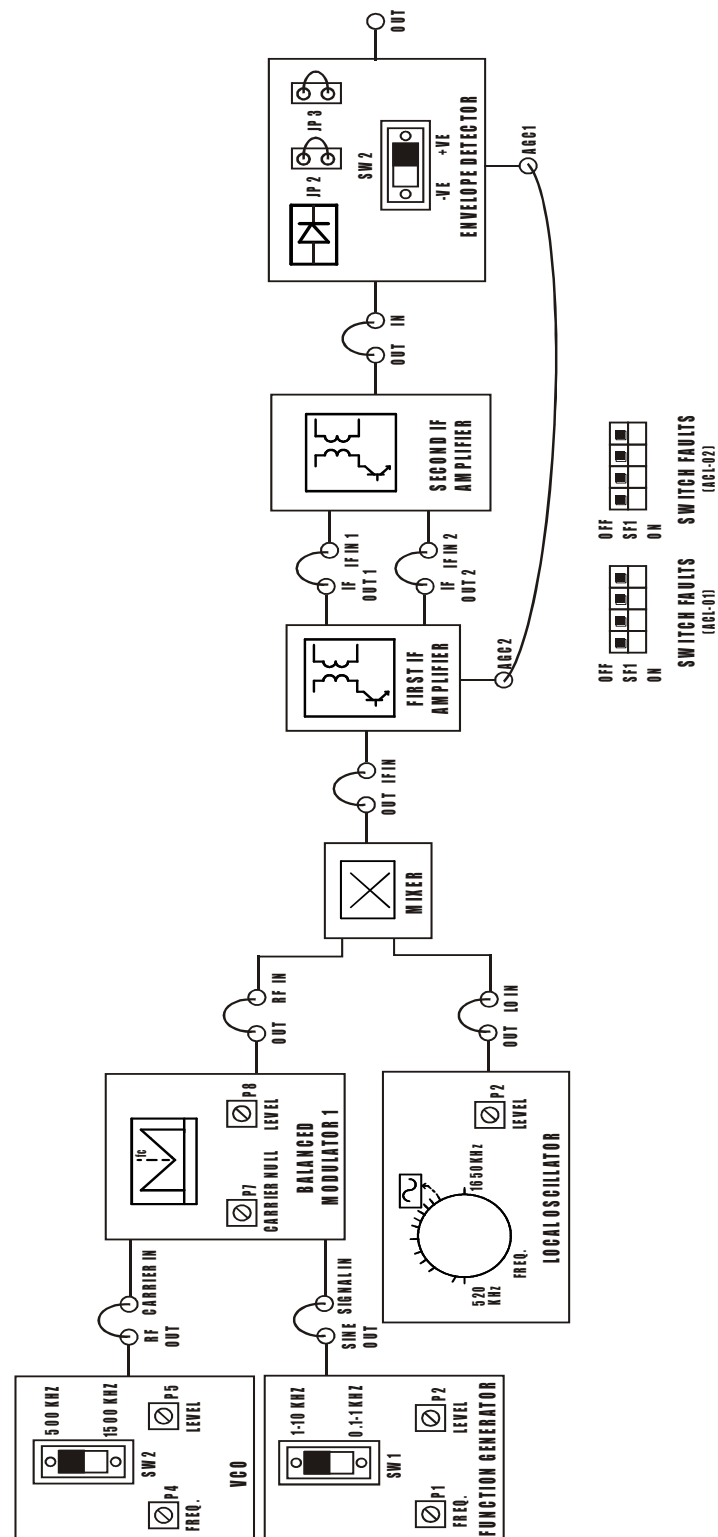

FIG. 3.1 BLOCK DIAGRAM FOR MEASUREMENT OF SENSITIVITY AND SELECTIVITY OF DSBBM RECEPTION VIA CABLE
1. Refer to the FIG.3.1 & Carry out the following connections.